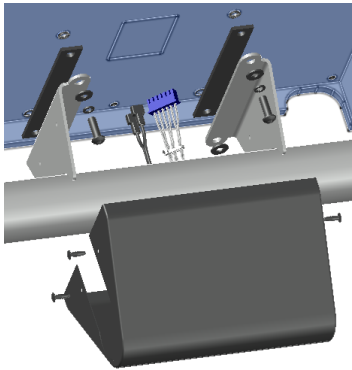

Figure 5-3
- (2) Rubber isolators
- (4) Washers
6. Attach the console to the console supports with the hardware supplied in the order shown in Figure 5-3. Ensure the rubber pads are placed between the steel mounting surface and the back of the console. Tighten bolts evenly.
7. Position the black cover and align the holes in the side of the mount with those in the cover. Secure cover with (4) #10-32 screws.